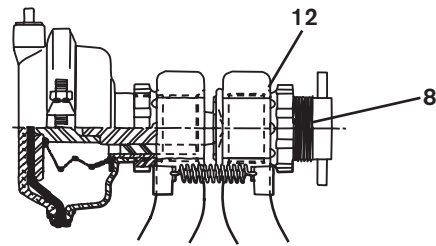

FIGURE 4
1. Loosen Adjustment Screw Spanner Nut (Item 12) (See Fig. 4).